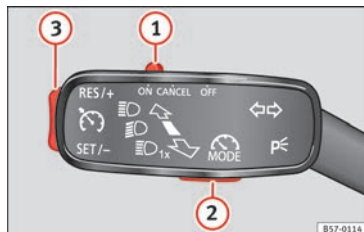

Fig. 182 On the left of the steering column: control and buttons to operate the speed limiter.
If you wish to temporarily switch off the speed limiter, e.g. to overtake, move control » Fig. 182 ① of the turn signal lever into position **CANCEL** or the third lever into pressure point **CANCEL** or press button ② on any lever.